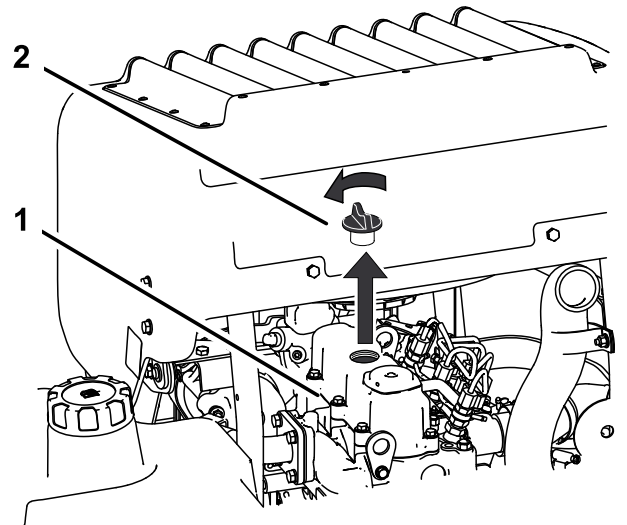

Figure 55
6. Remove the oil filler cap from the top of the engine (Figure 55).
2. Remove the oil-fill cap and dipstick (Figure 55).